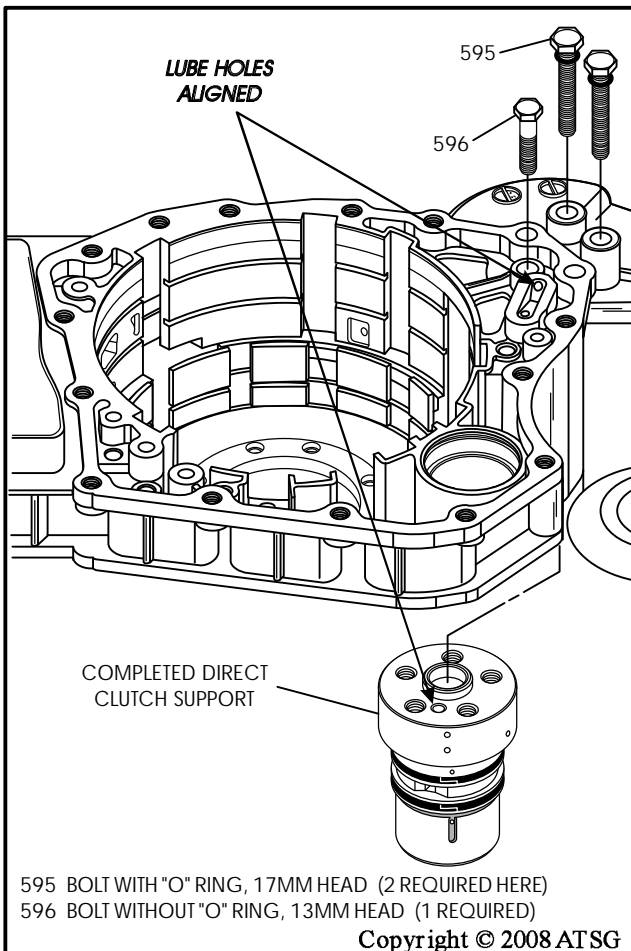

Figure 69
10. Re-install direct clutch support, ensuring that the lube holes are aligned properly, as shown in Figure 69.
11. Start the 13mm head bolt first and tighten only finger tight (See Figure 69).
12. Install new "O" rings on the two 17mm head bolts and lubricate with a small amount of Trans-Jel® (See Figure 69).